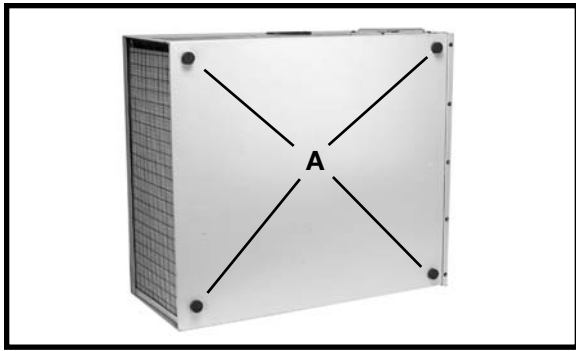

Fig. 3
Locate (4) self-adhesive rubber feet (A) Fig. 3 supplied with the unit. Carefully place Air Cleaner on a firm supporting surface with access to the bottom of the cabinet. Apply a self-adhesive rubber foot (A) Fig. 3 to the bottom at each corner of the air cleaner cabinet. The rubber feet will help eliminate vibration and will prevent the possibility of the air cleaner “walking” across the floor or work surface.